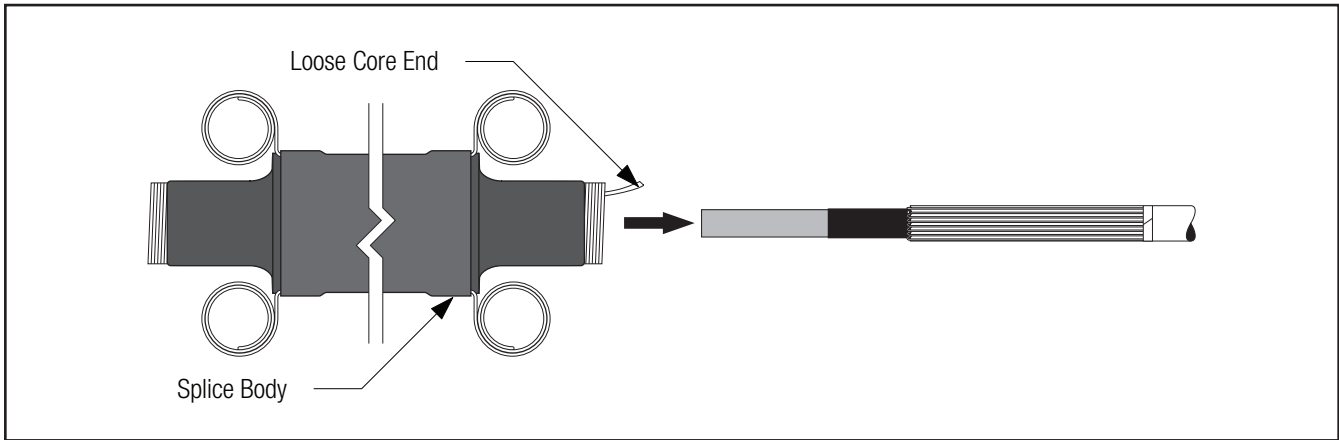

Figure 3
- 2.4 Clean or cover cable jacket if necessary, for cold shrink parking position. Slide splice body onto cable, loose core end first. (Figure 3).